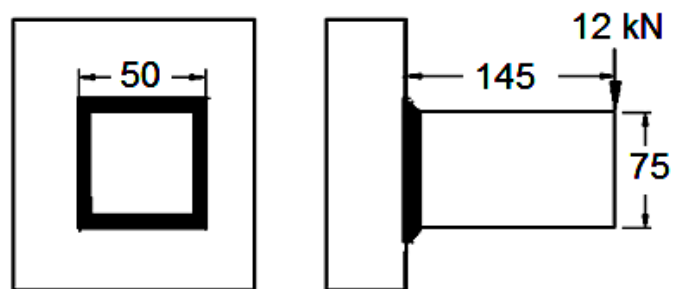

Fig.Q.4B
- 4B.** A rectangular bar is welded to the support as shown in Fig.Q.4B. Take the allowable shear stress as 40 MPa. Determine the size of the weld. **(03)**